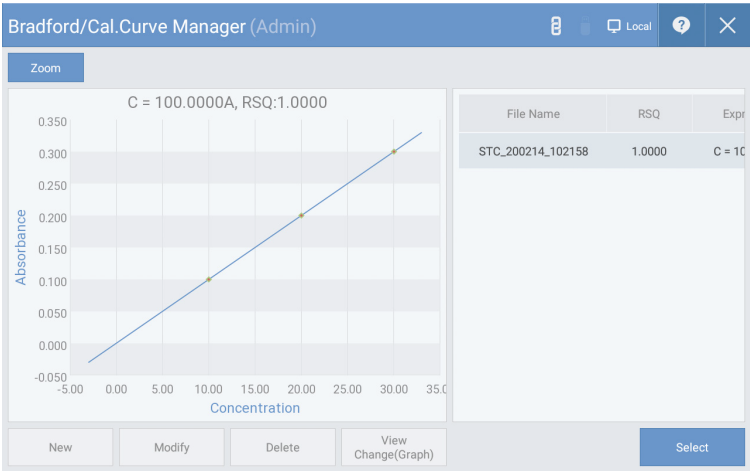

Fig. 3.2
1. Select the standard curve to use from [Fig. 3.2]. \* Refer to “How to Create Standard Curve” if there is no standard curve.
1. Click the “Create” button shown in [Fig. 3.2] to change to standard curve mode.